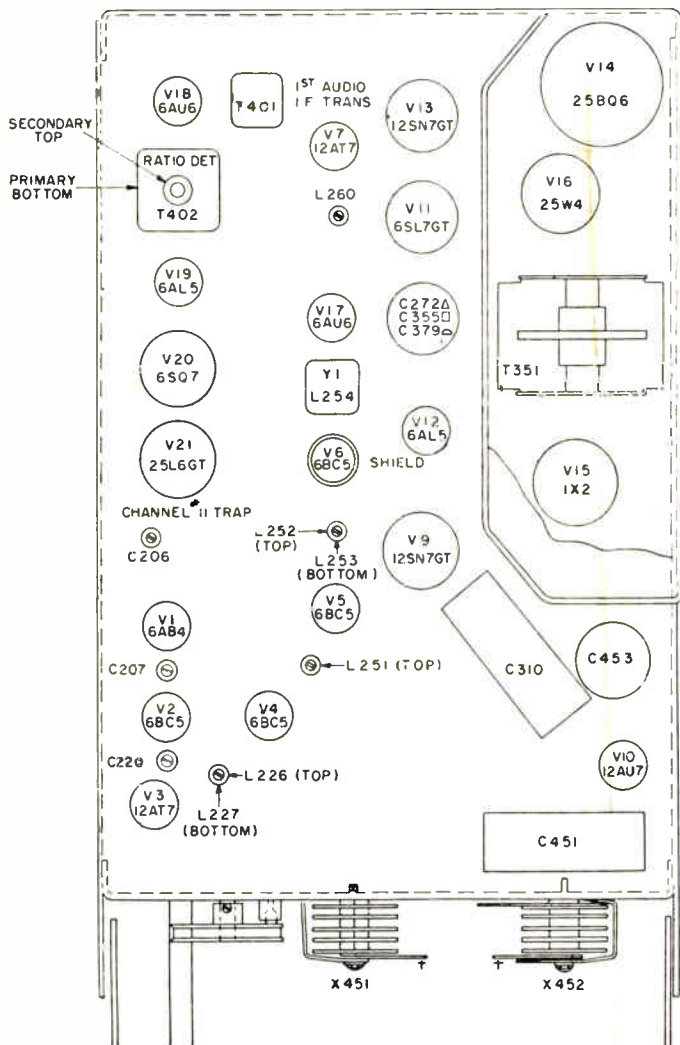
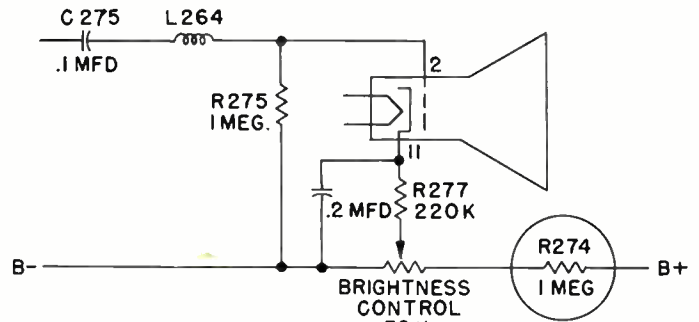

Fig. 1
Fig. 2
**TELE-CLUE M-212**—The distortion shown here was caused by a 6BC5 tube with grid emission in a General Electric Model 1711 receiver. The receiver would operate normally for about ten minutes. The contrast would then slowly increase until the contrast control had little or no effect on the picture. If any one of the AGC controlled tubes are leaky, gassy or have grid emission, the picture will be affected. V2, 4, 5, and 6 are AGC controlled in the chassis layout shown in Fig. 1. Due to the shield on V6 this tube runs hotter than the others and may, therefore, be more susceptible to this defect. Tele-Clue M-102 describes other components which may produce a similar condition.
**TELE-CLUE Q-213**—The above photograph shows the effect of too much brightness which could not be reduced beyond the level shown. A heater-cathode short in the picture tube will cause this condition. This type of short can be cured sometimes by gently tapping on tube neck. Another defect which may develop in General Electric receivers such as model 1711 is an increase in the value of resistor R274 encircled in Fig. 2. This resistor is located above the chassis on the terminal board near capacitor C-451 in Fig. 1.